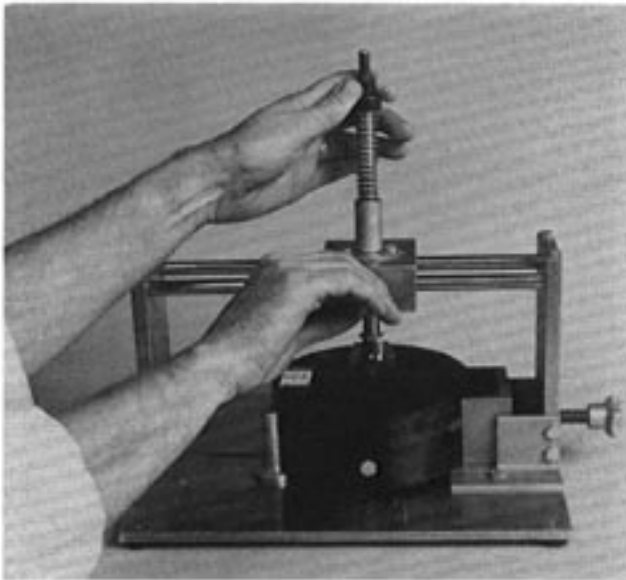

FIGURE 10 - CENTERING THE CUTTER BLADE
5.06 Loosen lock screw in bearing block. Lower shaft until center point of cutter blade is on desired position for center of hole. Hand tighten lock screw in bearing block (Figure 10).